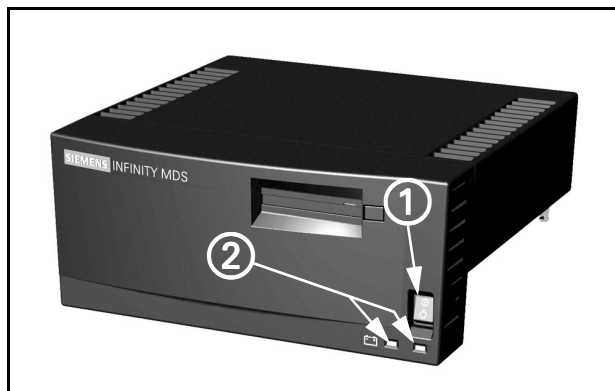

Figure 10-10 MDS (front view)
- 6) Verify two power LED's on front panel illuminate green (② in Figure 10-10), Medside Data Station emits a brief tone, and monitor display begins boot sequence.